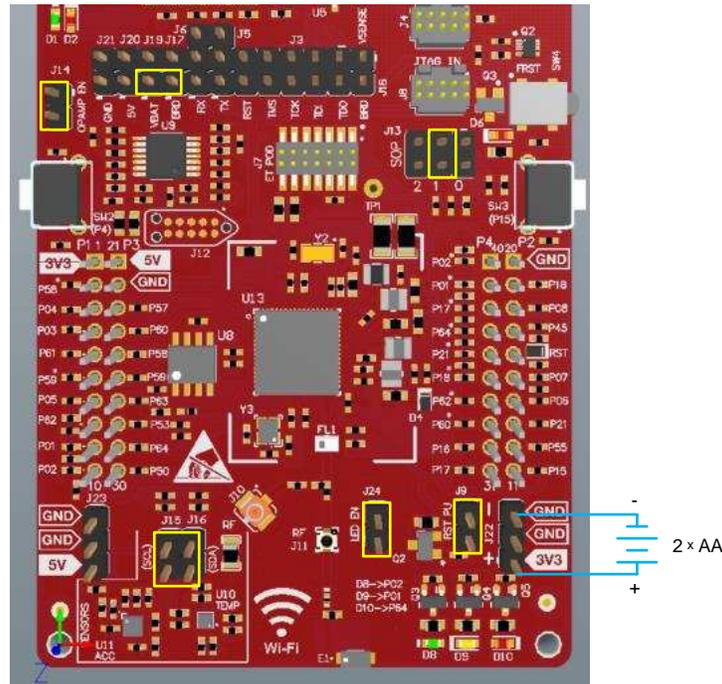

Figure 14. Powering the CC3220LP From Battery
2. Plug in the battery pack on J22 with the correct polarity (see Figure 14).
3. Connect the jumper across J17 and J19 as shown in Figure 14.